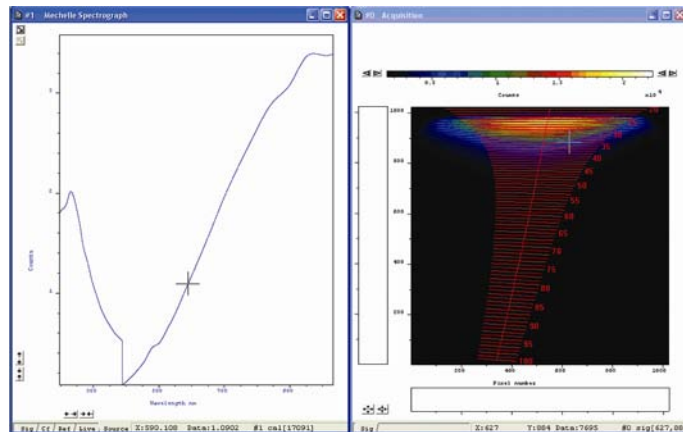

Figure 23: **Source** tab = combined source data from a deuterium lamp (200 - 390 nm) and a QTH lamp (390 - 800 nm)
1. **Source:** the data taken from the standard lamp (see figure 23 on page 42).